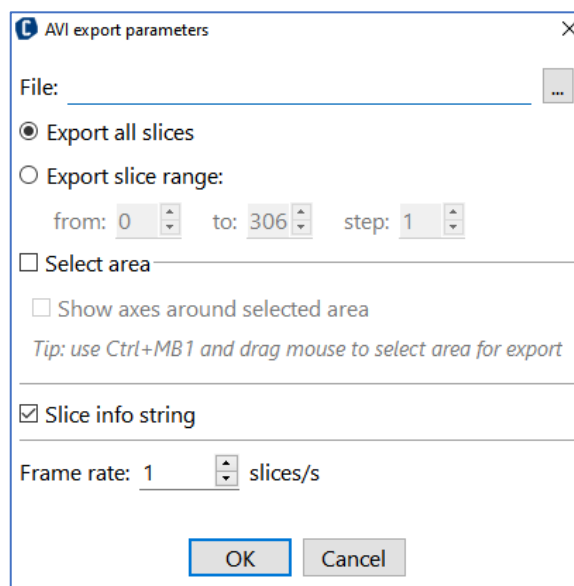
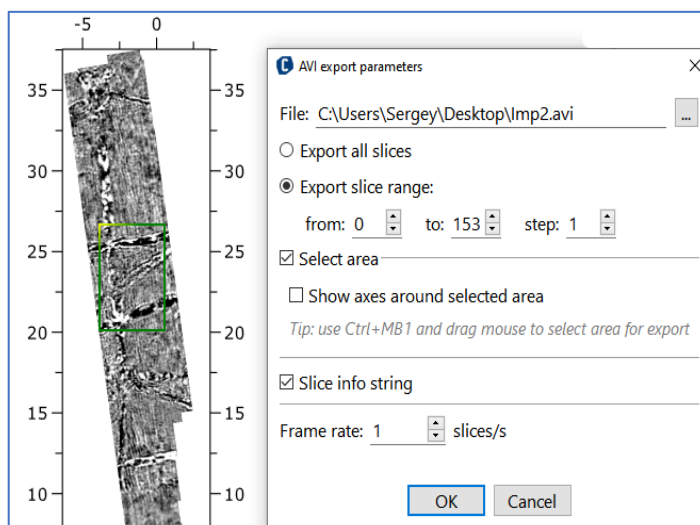

Figure 88 AVI export parameters
Figure 89 Area selection for AVI export
**File:** an AVI file to save the video to. Refer to Figure 88 and Figure 89.